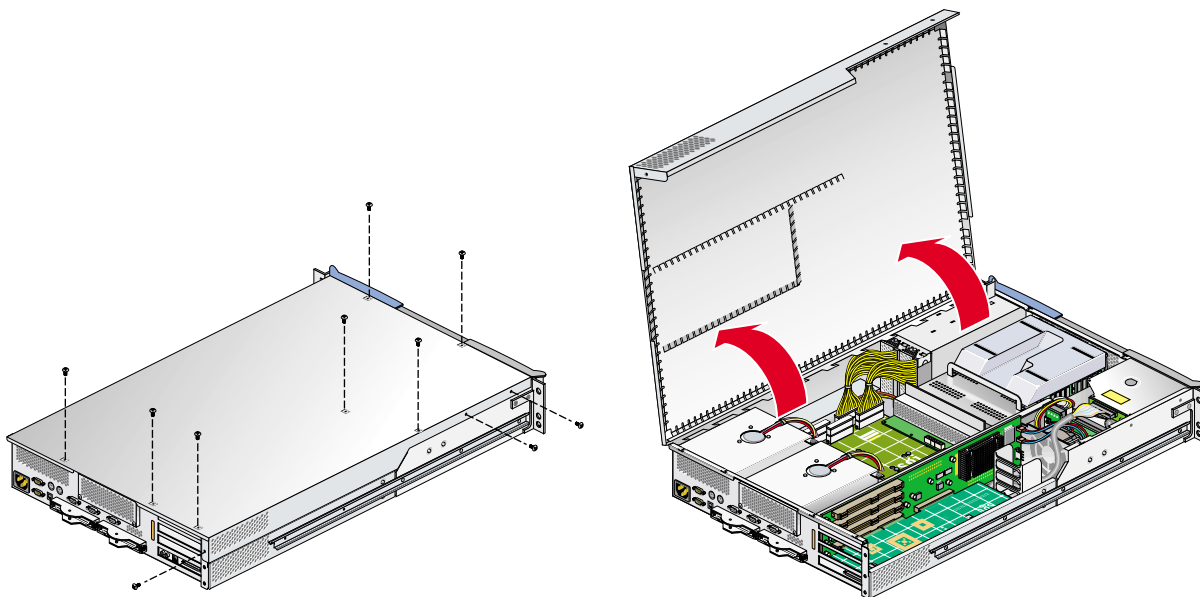

Figure 6-10 Opening the Cover to Remove the Card
6. To access the card, remove the ten Phillips screws, as shown in Figure 6-10, and lift the hinged cover.